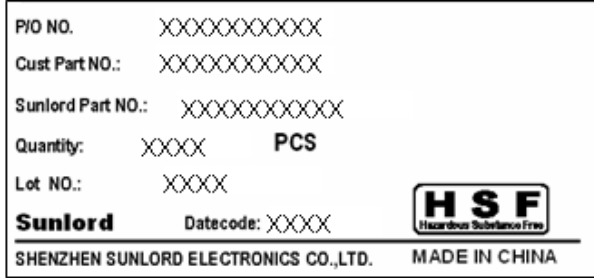

Fig.10.2.3-2A
- a). Inner box please refers to Fig.10.2.3-3and Table 10.2.3-1
3)Marking on outer case (see Fig.10.2.3-4-6):